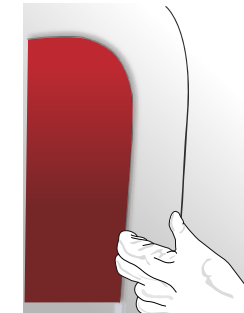

Figure 15
- ▶ Remove the excess upper film as well as the TIRODECO or the WRAPKNIFE protective film. Then firmly press on the film edge with your finger or a felt-covered plastic squeegee. (FIG. 15)